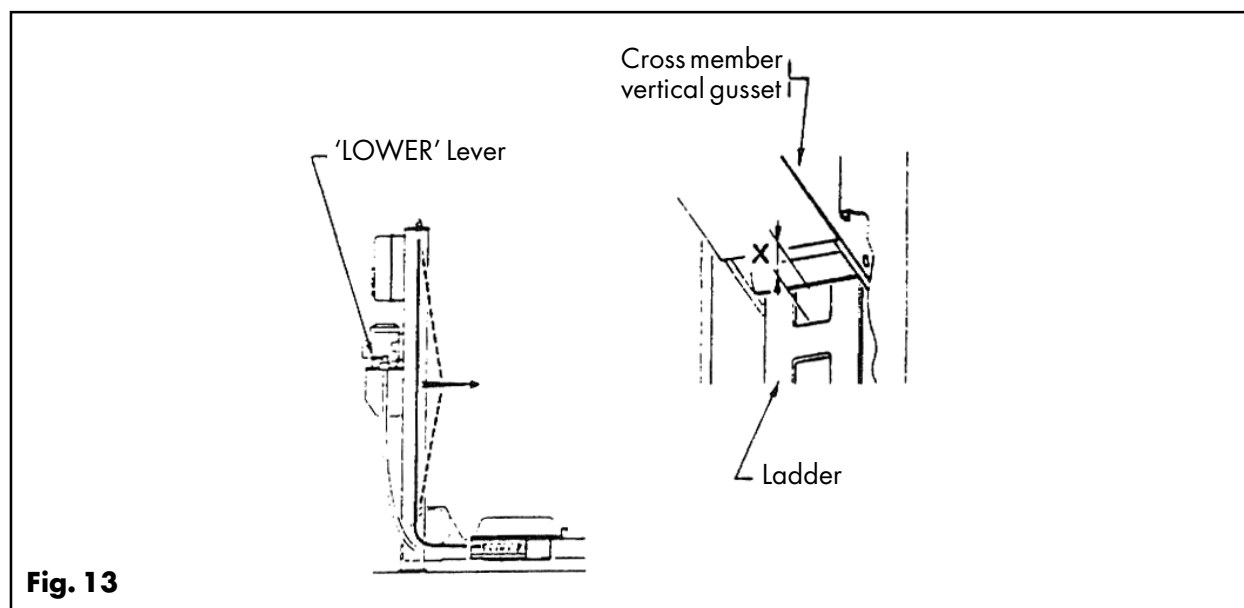

Fig. 13
- Position a vehicle weighing between 1500 kg and 2200 kg on the platform. Raise the platform to eye-level, suspended on the wire ropes and check that dimension X (Fig. 13) is more or less the same for all four columns. If necessary, adjust the wire ropes.